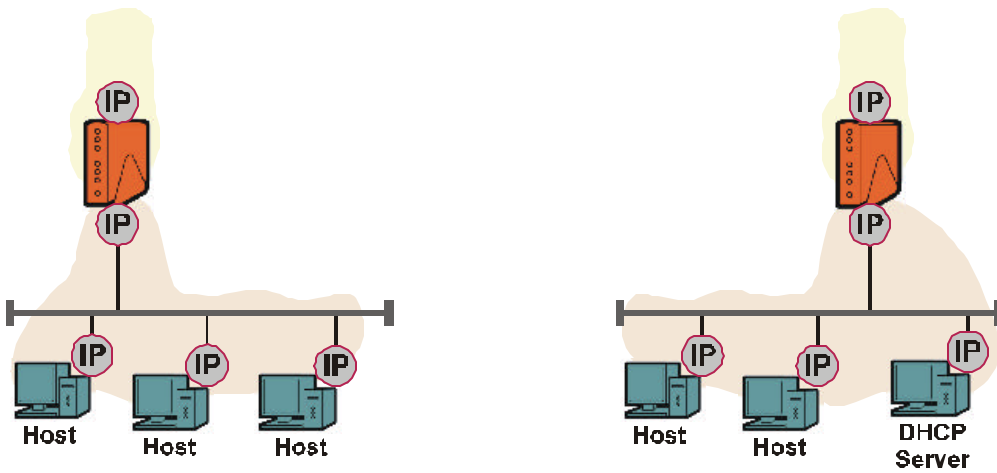

Figure2-6 PacketWave Subscriber Indoor Unit and Host IP Addressing
- Subnets may be implemented at subscriber sites. *Figure2-6* shows various options.
- Subscriber hosts can receive IP addresses in a variety of ways (see *Figure2-6*):